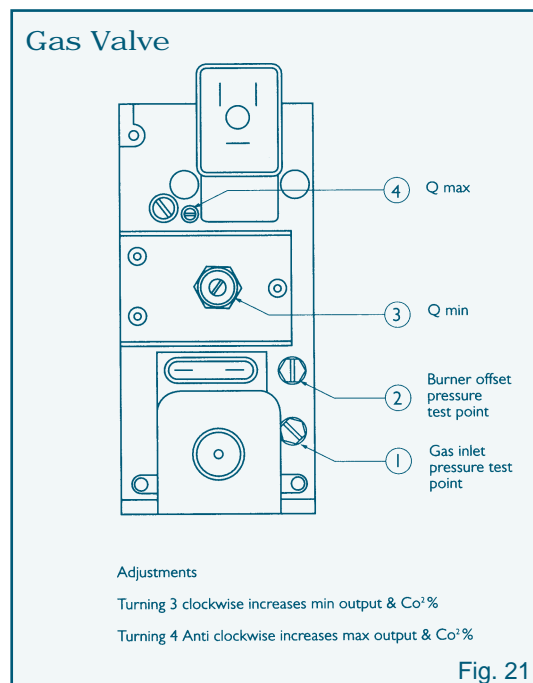

Fig. 21
- Attach U tube manometer to inlet pressure test point on right hand gas valve (See figure 21) nominal pressure should be 20mb for NG or 37mb for LPG.
- Press the Engineers" test button twice - the screen should/must display "10 min Low". The boiler should now ignite and following stabilisation of the flame, will turn down to and hold at minimum output. In the event that ignition of one or both burners does not occur after 4 attempts the appliance will go to ignition failure lockout. Remove the cover cap screws from Qmin adjustment on gas valves (See figure 21(3)) turn adjustment screw half turn clockwise.